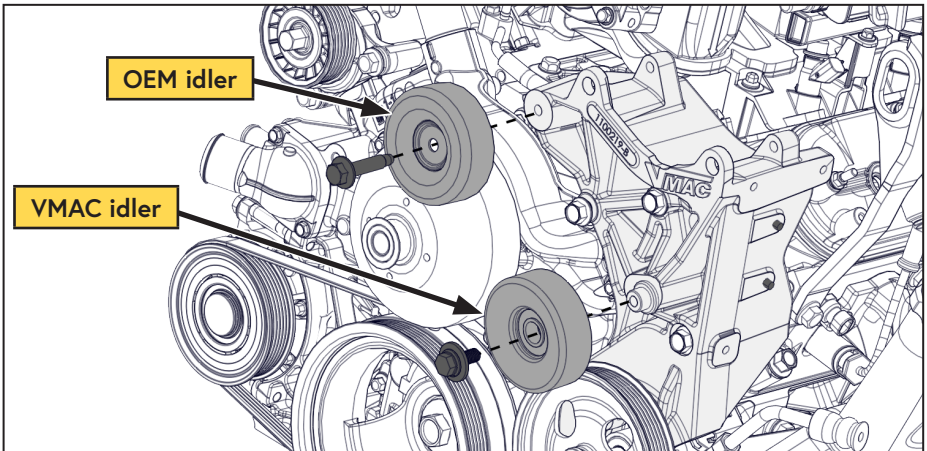

Figure 15 — Installing FEAD components
- Install the OEM idler in the original position on the VMAC bracket (Figure 15).
- Install the VMAC idler onto the VMAC bracket (Figure 15).